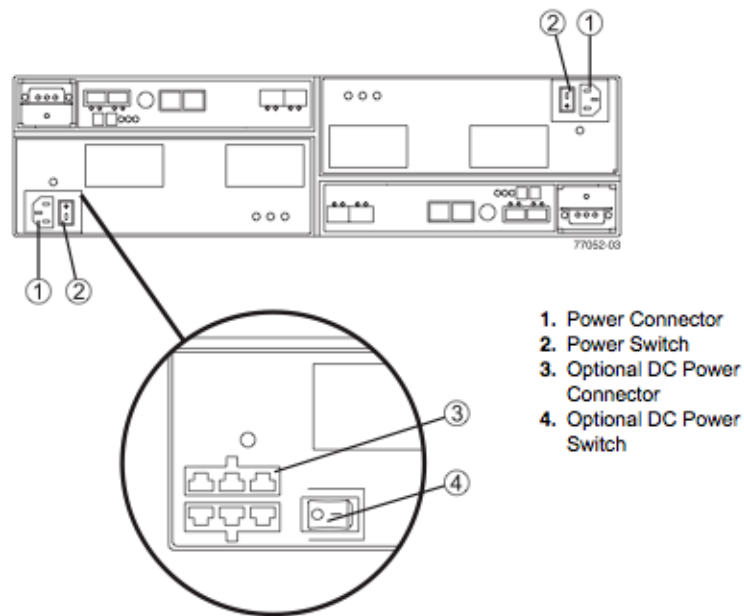

FIGURE B-1 DC Power Connectors and DC Power Switch.
FIGURE B-1 shows the DC Power Connectors and DC Power Switch (item 15).